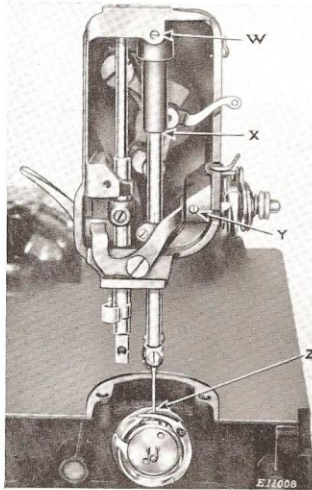
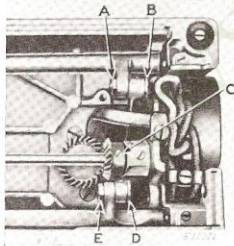
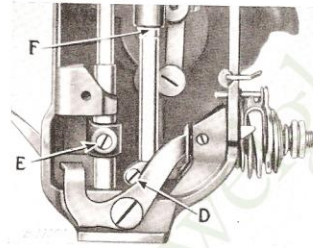

Fig. 115. Timing Rotary Sewing Hook.
Fig. 116. Feed Dog Adjustment.
Fig. 117. Needle Bar Set at Correct Height.
Remove the face plate, presser foot, throat plate and feed dog. Place a new needle in the needle bar, pushing it up into the needle bar as far as it will go. The needle bar has two timing marks near its upper end. Turn the balance wheel toward you until the **lower timing mark** on the needle bar is centred with the lower end of the needle bar bushing when the needle bar is on its upward stroke, as shown at (X, Fig. 115). When the needle bar is in this position, the **point of the sewing hook** should be at the **centre of the needle**, as shown at (Z, Fig. 115), if the **hook is correctly timed**. In case the hook is not correctly timed, turn the machine over on its rear side and remove the bottom cover plate after taking off the thumb nut which holds the bottom cover plate in place. Loosen the two set screws in the gear on the right hand end of the hook shaft, and turn the hook until its point is in proper relation to the needle as explained above. Then tighten the two screws (C, Fig. 116), making sure that the gear is pushed against the bushing at the right hand end of the shaft, and that the slightly raised portion or "boss", on one side of the collar and counterbalance is against the bushing to prevent end play.
When it is necessary to raise or lower the feed dog, remove the bottom cover plate and loosen the nut (E, Fig. 116) on the end of the feed lifting eccentric screw (D, Fig. 116). Turn the eccentric screw (D) until the high throw of the eccentric is toward the rotary hook shaft gear (C, Fig. 116). When the eccentric screw (D) is in this position, the top of the feed dog teeth will be at the correct height above the throat plate. Be careful not to adjust the feed dog low enough to strike the hook when the feed is in reverse and when the longest stitch is being used. Then securely tighten nut (E, Fig. 116).
With the needle bar in this position, the **upper timing mark** should be centred with the lower end of the needle bar bushing as shown at (F, Fig. 117). If the needle bar is not set at the correct height, loosen screw (D, Fig. 117) and move the needle bar up or down until the **upper timing mark** is centred with the lower end of the needle bar bushing as shown at (F, Fig. 117). Then securely tighten screw (D). The needle bar bushing is accurately set at the factory, and its position should not be disturbed. If its position has been disturbed, turn the balance wheel toward you until the point of the hook is at the centre of the needle and approximately $\frac{1}{16}$ inch above the top of the eye of the needle. Loosen set screw (W, Fig. 115) and move the bushing up or down until its lower end centres with the **lower timing mark** at (X, Fig. 115). Then tighten set screw (W, Fig. 115).
The feed dog should be positioned in the slots of the throat plate so that it will not come in contact with the throat plate at either end of the slots during its travel. If the feed dog is not correctly positioned, remove the bottom cover plate. Loosen the nut (A, Fig. 116) on the end of the eccentric screw, (B, Fig. 116) and turn the screw so that the centre row of teeth will be close to the end of the feed dog slot nearest the needle hole in the throat plate, but not close enough to strike the end of the slot. The eccentric screw (B, Fig. 116) is in correct position when the high throw of the eccentric is upward and away from the gear (C, Fig. 116) on the hook shaft.